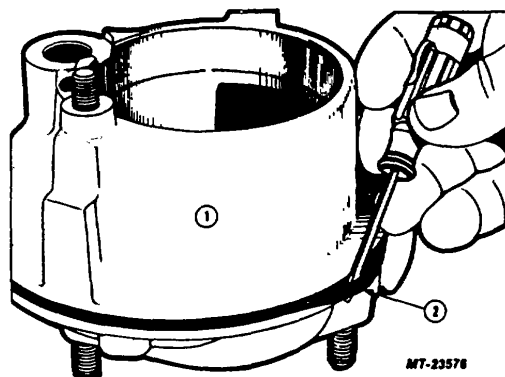

Fig. 21 Remove Gasket
18. Remove housing-to-reservoir sealing gasket. Figure 21.